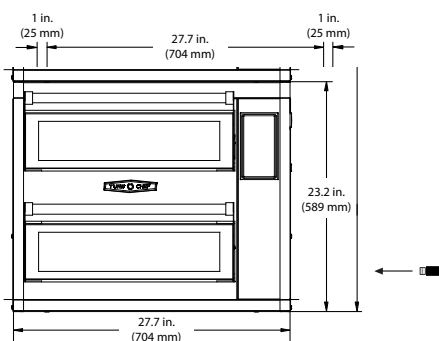

Figure 51: USB Port
1. When the oven is off or cooling down, insert the USB drive (Figure 51). The oven will automatically detect the device.